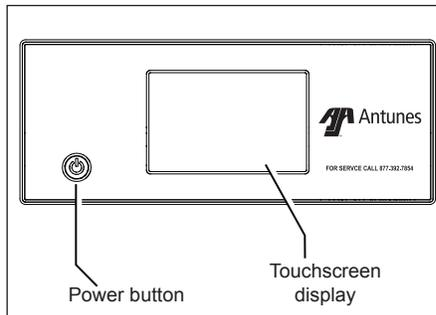

Figure 3. Control Panel
1. Plug the power cord into the appropriate outlet. Press the power button to turn the unit on (see Figure 3).